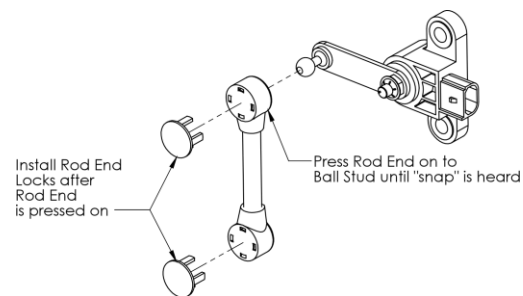

Figure 14. Height Sensor Plastic Linkage End Installation.
1. Install Height Sensors as shown above. Refer to **Figure 14** or **Figure 15** for detail of linkage.